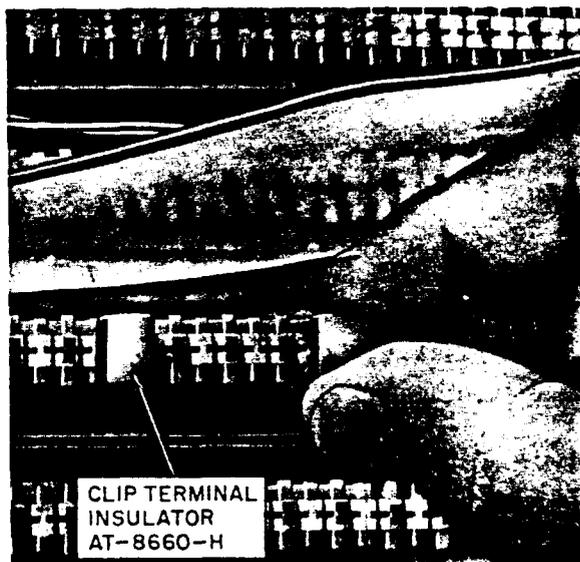

Figure 25. Placing Clip Terminal Insulator for Special Circuit Identification
9.01 When cable pairs terminated in a 108-type connecting block are used for special service, it will be necessary to identify the circuits by placing an H clip terminal insulator AT-8660-H over the pair at the feeder and distribution termination as shown in Figure 25.